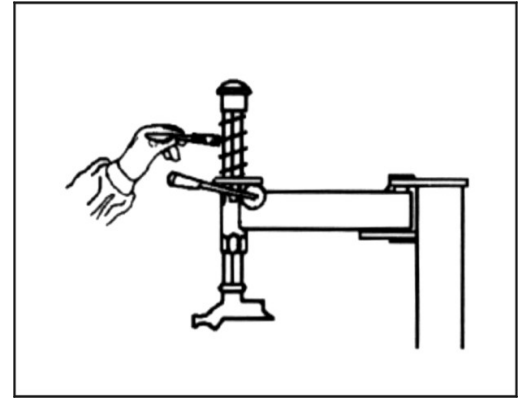

Fig 27
- Use the diesel oil to wash the hexangular shaft and quadric horizontal arm (Fig27).